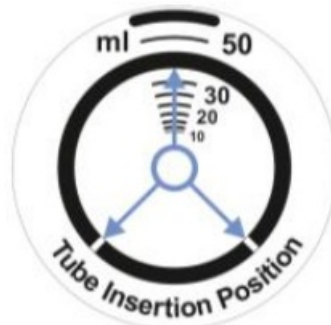

Figure 3.
- Align sensor spots with socket indicator lines (figure 3);
- Tube positioning in the tube socket must be as follows: The volumes mark of the TPP tube must be between and opposite to the two markings on the rotor and the sensor spots must align with the two markings (figure 3); this position enables the light from the laser to be transmitted without disruption by different marks presented on the tubes outer surface and it allows for pH and O2 optics to be on the same axis as the sensor spot.